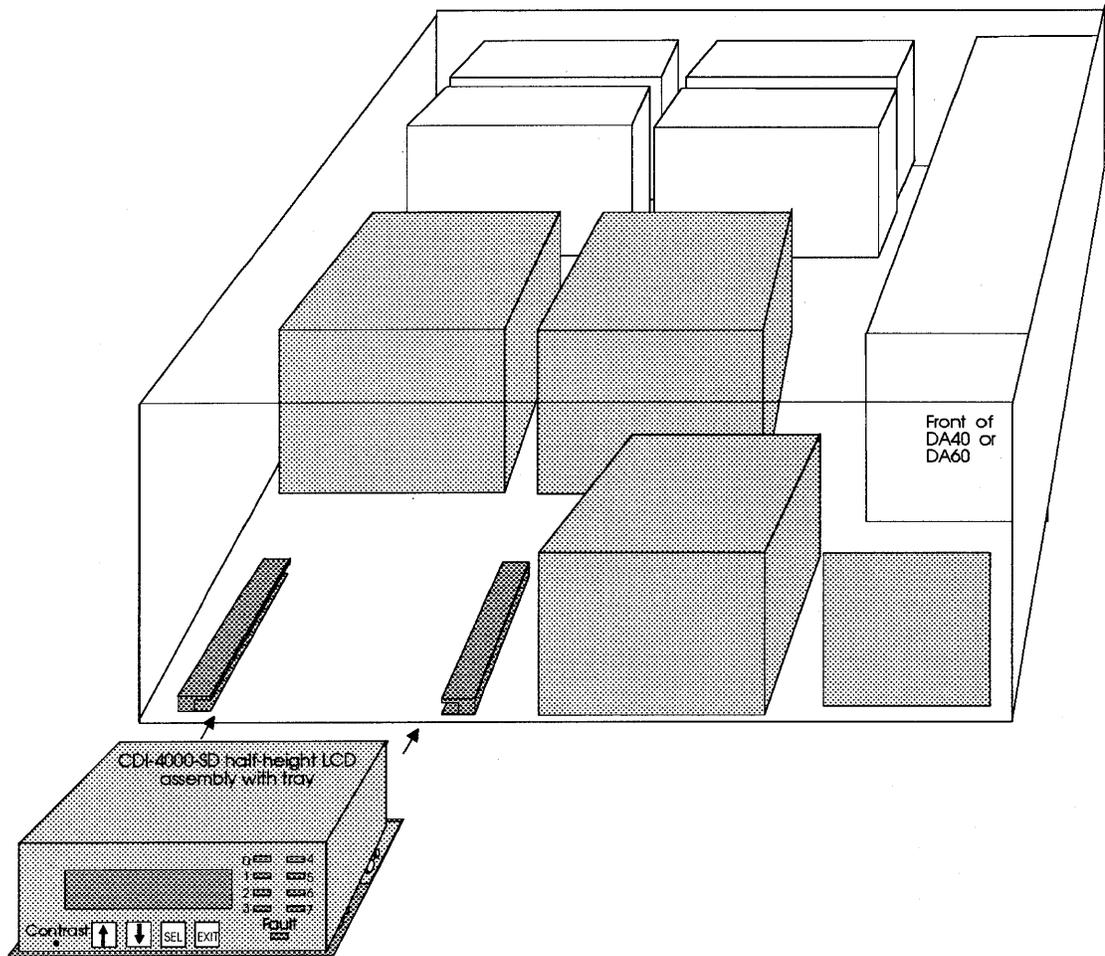

Figure 7-12: Sliding the tray into the DA40 or DA60
- 5 Slide the tray into the DA40 or DA60. It is best to slide the tray into the left slot when facing the front; see Figure 7-12.